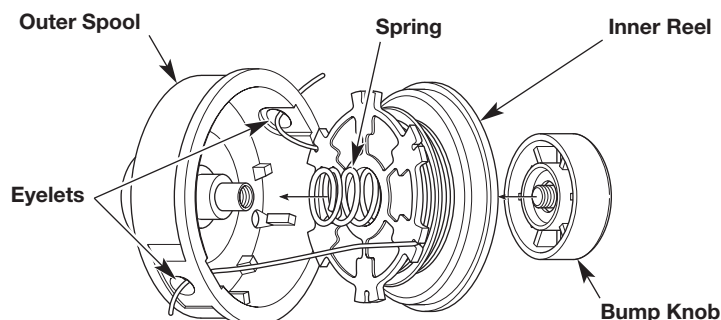

Fig. 17
1. Pass the two line ends through the eyelets in the outer spool. Place the spring inside the inner reel. Insert the inner reel into the outer spool. Push the inner reel and outer spool together (Fig. 17).